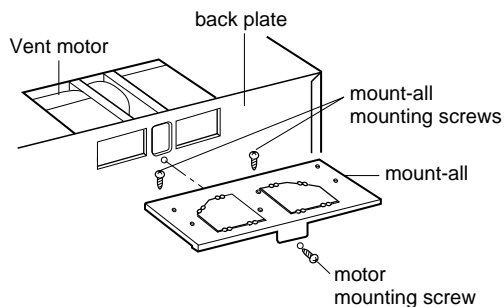

Figure 11
3. Detach mount-all from out case by removing two mount-all mounting screws and one motor mounting screw. See figure 11.